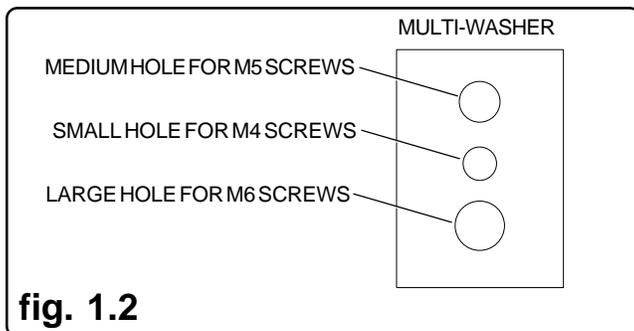

**fig 1.1**
- 1 To prevent scratching the screen, set a cloth on a flat, level surface that will support the weight of the screen. Place screen face side down. If screen has knobs on the back, remove them to allow the adapter brackets to be attached. Place deep brackets (**BB**) on back of screen, align to holes, and center on back of screen as shown in figure 1.1. Attach the deep brackets to the back of the screen using the appropriate combination of screws, multi-washers, and spacers as shown in figure 1.3.